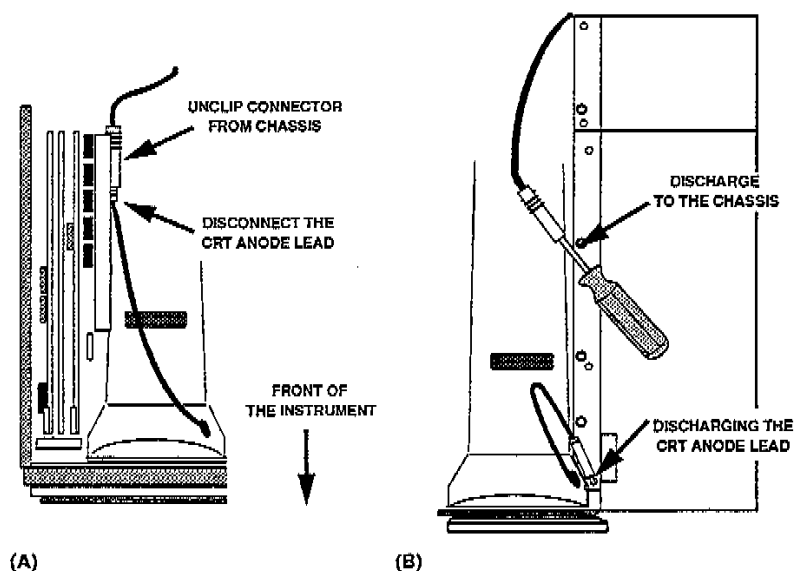

Figure 3-3. Discharging the CRT anode lead to the chassis.
1. Disconnect the ceramic connector above the CRT; refer to Figure 3-3 (A).
3. Insert the metal end of the male connector into one of the empty holes at the top of the card cage, refer to Figure 3-3 (B). Be certain the metal connector is touching the chassis.
4. Insert the blade of an insulated screwdriver into the female connector and short the blade to the chassis, refer to Figure 3-3 (B).